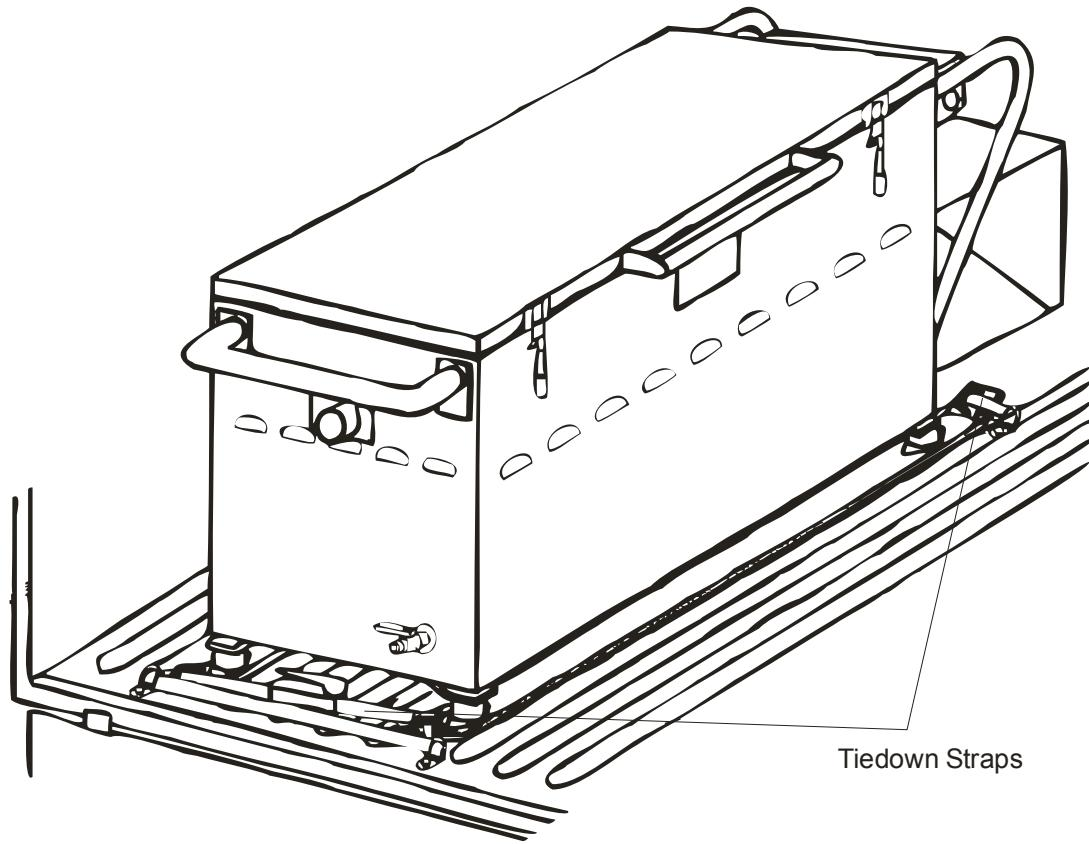

Figure 2-1. Cargo Bed Rings/Tiedown Strap Positioning
e. **TRH Stabilizing Devices.** Figure 2-1 illustrates TRH stabilization devices (tiedown straps).
Line up the TRH skid rings with the D-rings on the left side of the HMMWV cargo bed as illustrated in figure 2-1.